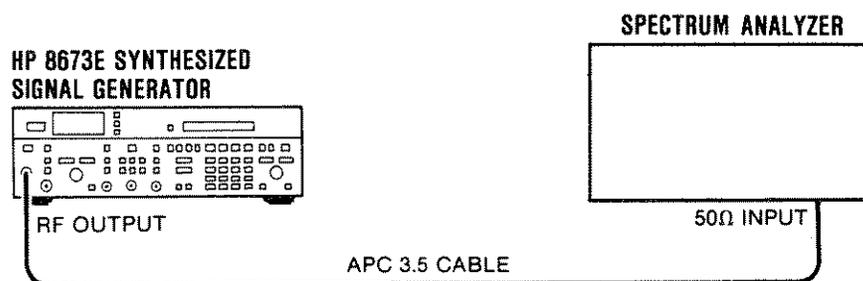

Figure 4-4. Harmonics, Subharmonics, and Multiples Test Setup
1. Connect the Signal Generator RF OUTPUT to the input of the spectrum analyzer as shown in Figure 4-4.